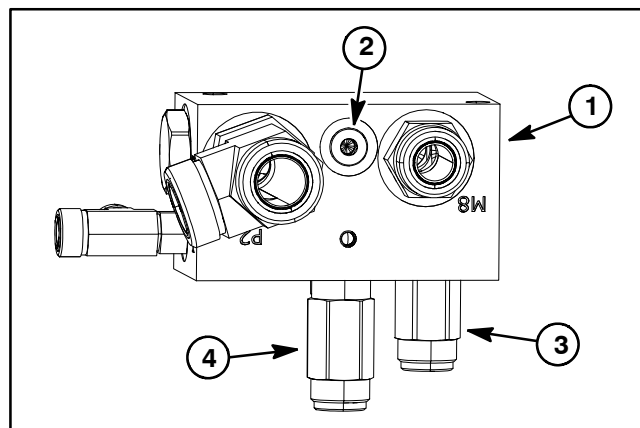

Figure 44
**NOTE:** If the rear traction circuit pressure reducing valve (PR) pressure is excessive, operation of the rear traction relief valve (RV) may be affected. Ensure that pressure reducing valve (PR) pressure is correct .
9. The rear traction circuit relief valve (RV) is located on the bottom of the rear traction manifold (Fig. 44). If test pressure is incorrect, replace relief valve (RV).